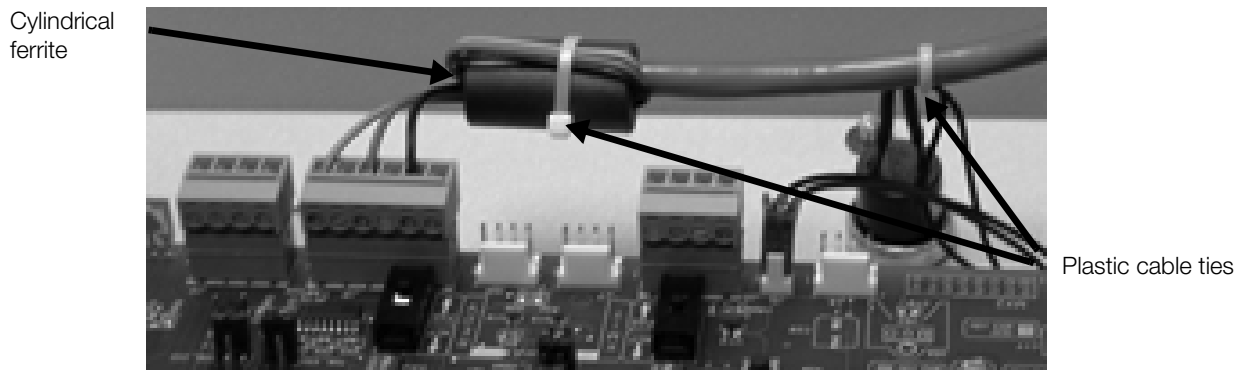

Figure 2-7. Cylindrical Ferrite Placement
1. Loop the serial wires through the cylindrical ferrite (PN 66730) provided with this manual. See Figure 2-7 below.
2. Using the plastic cable ties provided, secure the wires to the ferrite and the serial cable to the learn switch wires to keep ferrite from contacting the CPU board. See Figure 2-7 below.